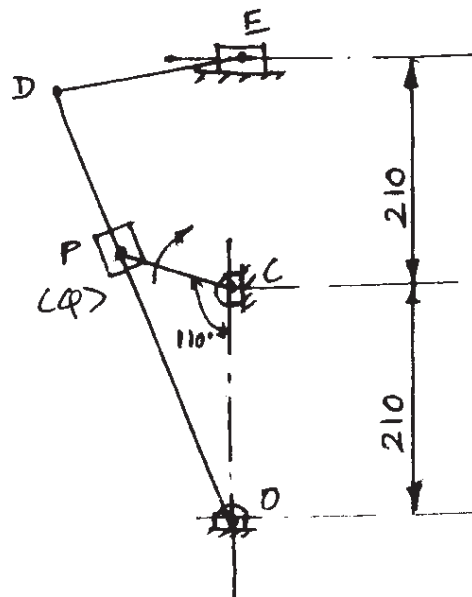

Fig. 3
- Q5) Fig. 3 shows a Crank and slotted lever quick return mechanism. CP rotates at 90 rpm clockwise. Find the velocity and acceleration of E. [16]